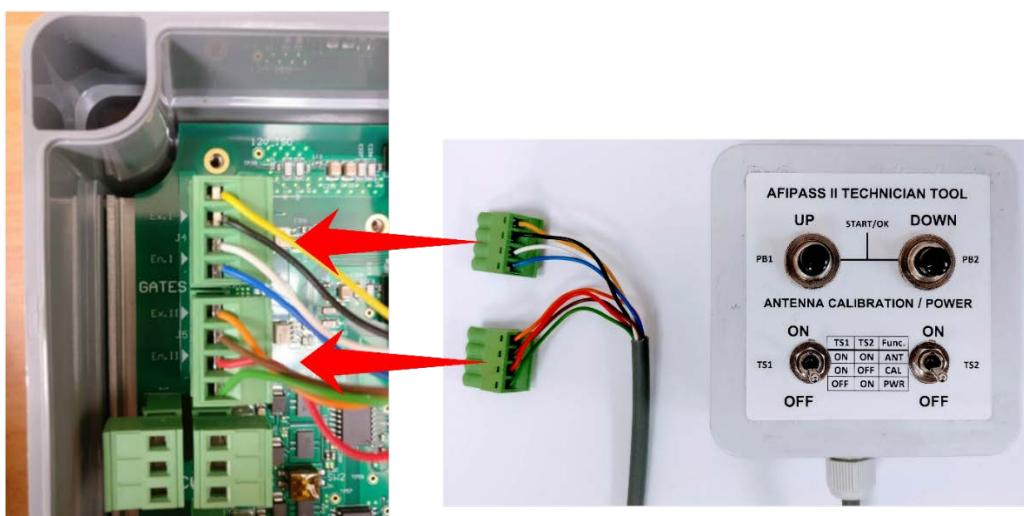

Figure 17 – Technician Tool Connections in Afipass II Controller
5. Connect the **Afipass II Technician Tool** pin connectors instead of the gates' connectors (see Figure 17):